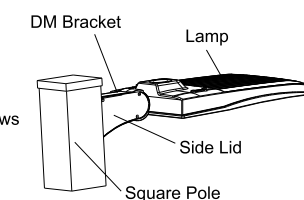

Figure 13
Step 2: Put the connected wire into the junction box, then cover the junction box. (Figure 13)